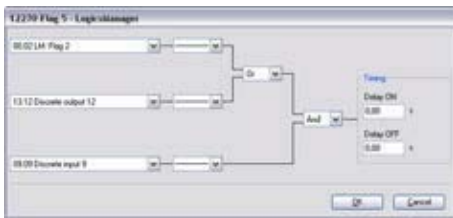

Fig. 171: LogicsManager function "Flag 5"
6. ➤ Configure the LogicsManager function "Flag 5" as shown in (Fig. 171).